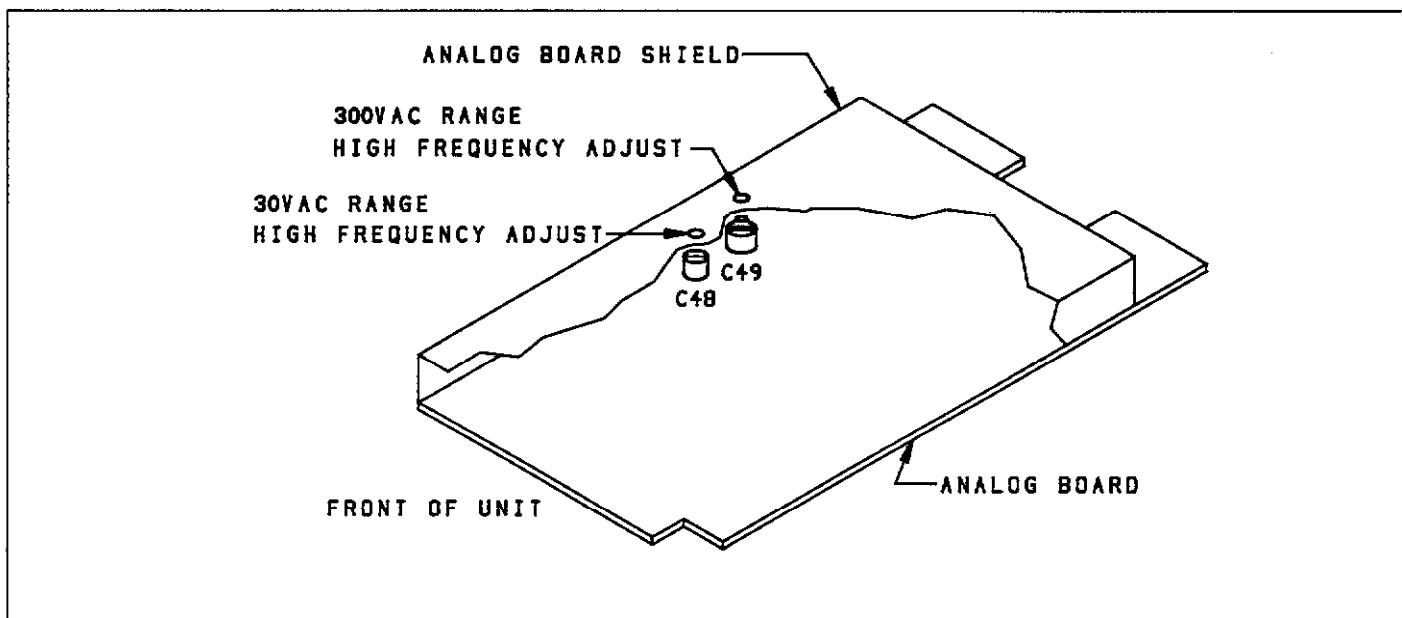

Figure 6-7. TRMS AC Volts High Frequency Calibration Adjustments (30V & 300V Ranges)
- D. After allowing sufficient time for the measurement to settle, use an insulated alignment tool to adjust C49 (see Figure 6-7) for a display reading of $100.000V \pm 250$ counts.